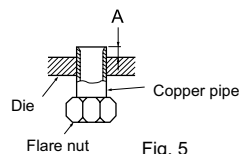

Fig. 5
- Insert the drain hose into wall hole sleeve (C), and hook the upper part of indoor unit on installation plate (1). Then, move the indoor unit completely to the left in order to make placing the piping in the back space of the unit easier.
- Cut out a piece of cardboard from the shipping box, roll it up, hook it onto the back rib, and use it as a spacer to lift the indoor unit. (Fig. 5)
- Connect the refrigerant piping with the extension pipe (B).
- Thrust the lower part of the indoor unit into the installation plate (1).